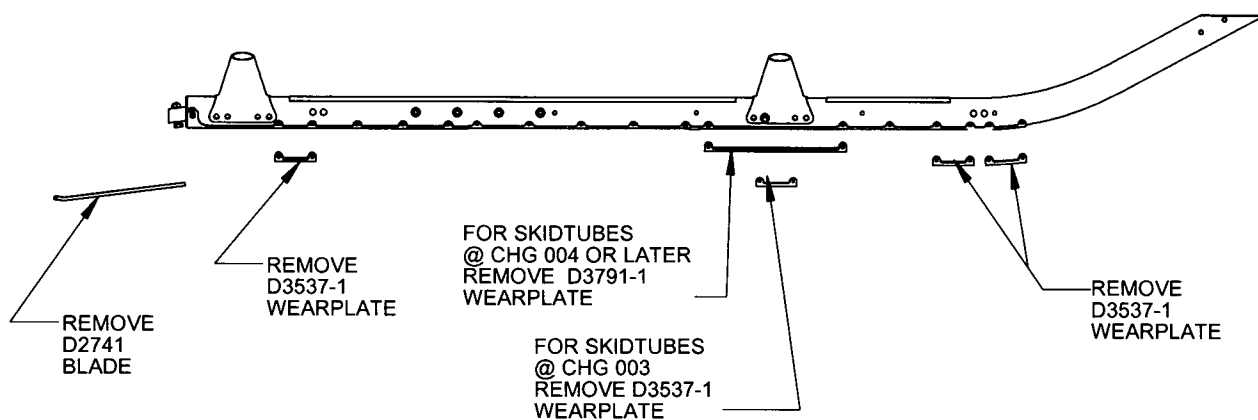

FIGURE 1: BLADE/WEARPLATE REMOVAL
- 4.1 Refer to Figure 1 on sheet 3 of this Service Instruction. Remove and retain the components indicated per ICA-D350-636, Sections 32.3 and 32.4. Ensure the AN8 fasteners are serviceable.